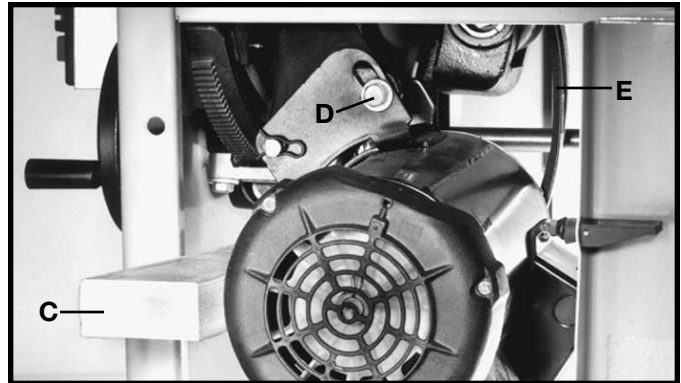
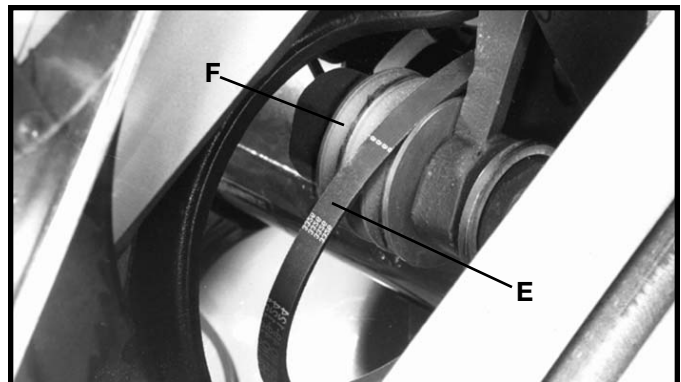

Fig. 118
Fig. 119
3. Place a block of wood (C) Fig. 118, between the motor and saw cabinet as shown. **NOTE:** It may be necessary to raise the saw arbor in order to insert the wooden block. Lower the saw arbor until the motor contacts the wood.
4. Loosen bolt (D) Fig. 118, and continue to lower the saw arbor until all tension is removed from the belts (E). Tighten bolt (D).
5. Raise the saw arbor slightly and remove the block of wood (C) Fig. 118.
6. Lower the saw arbor. Remove the belts (E) Fig. 118, one at a time from the motor pulley.
7. Remove the belts (E) Fig. 119, one at a time from the arbor pulley (F).
8. Assemble the three new belts, one at a time in the grooves of the arbor pulley (F) Fig. 119, and onto the motor pulley.
9. When the new belts are assembled on the arbor pulley (F) Fig. 119 and the motor pulley, loosen screw (D) Fig. 118, and carefully let the motor rest on the belts.
10. Correct belt tension is when there is approximately 1/4" deflection in the center span of the pulleys, using light finger pressure. After tension is applied, tighten screw (D) Fig. 118.